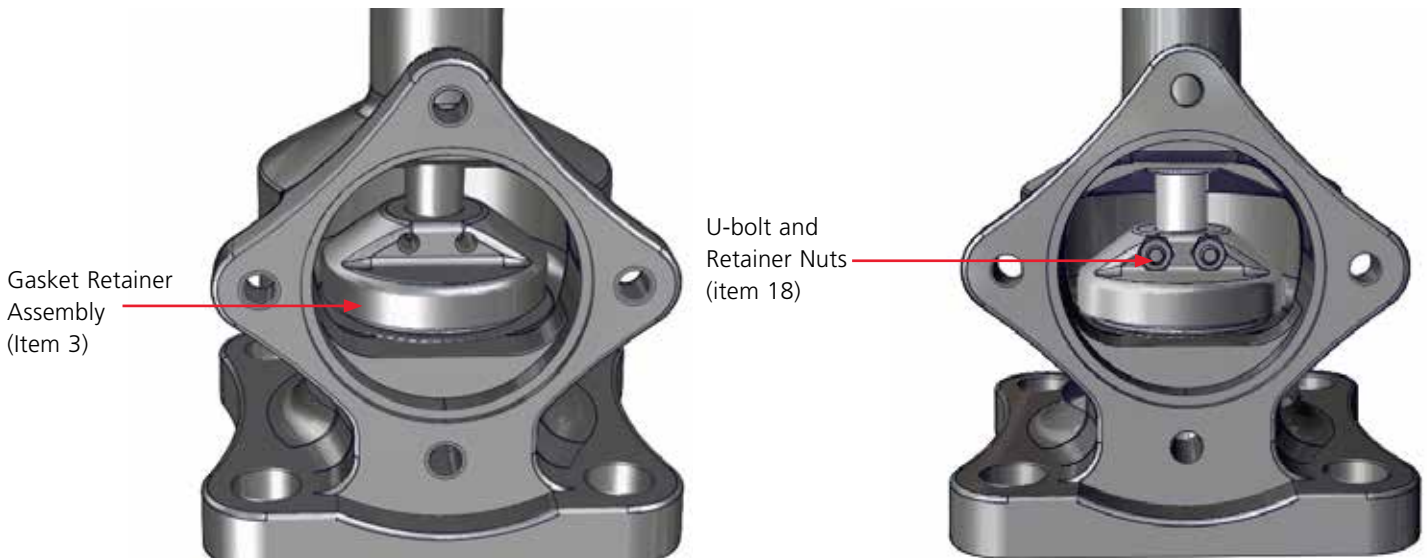

Figure 7-7 Reassembly steps 7.2.12 through 7.2.15
- 7.2.12** Position the gasket retainer assembly into the valve body through the side port so that the seat seal (item 10) is resting on the body seat; see Figure 7-7.
- 7.2.13** Turn the valve handwheel clockwise to lower the stem into the recess in the gasket retainer (item 3). Orient the retainer so the two holes for the retainer are accessible through the side port; see Figure 7-7.
- 7.2.14** Insert the stem retainer U-bolt through the holes in the retainer and the groove of the stem to couple these parts. Lightly tap in the U-bolt so the threaded ends go as far through the gasket retainer holes as the base of the U-bolt will permit; see Figure 7-7.
- 7.2.15** Open the valve about ¼-turn and rotate the gasket retainer 180°, and reclose the valve. Install the two retainer nuts (item 18) and tighten them down securely with a socket wrench. It may be necessary to keep the U-bolt forward with one finger on one leg while installing a nut on the other leg; see Figure 7-7.